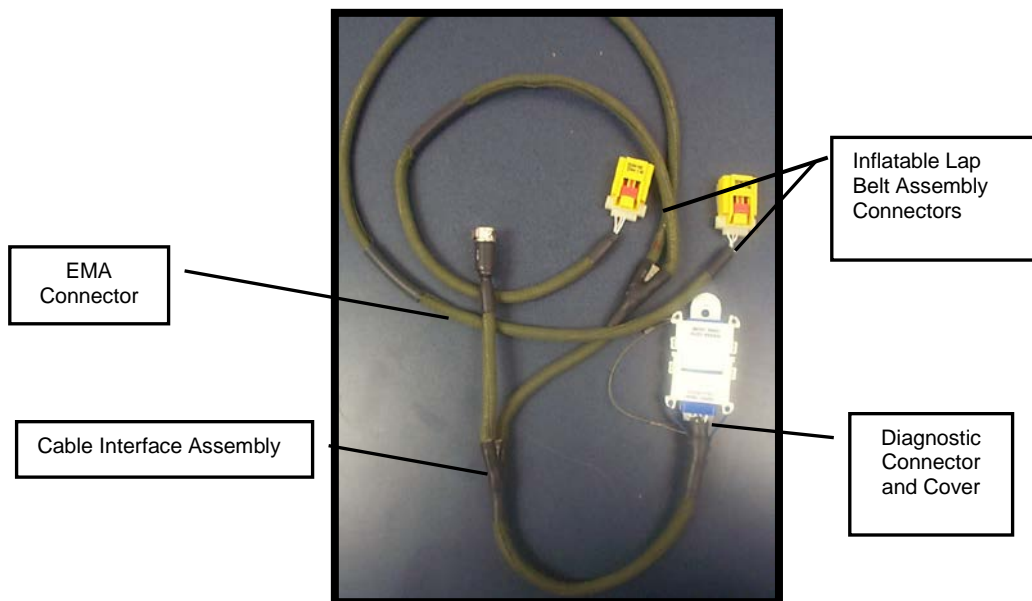
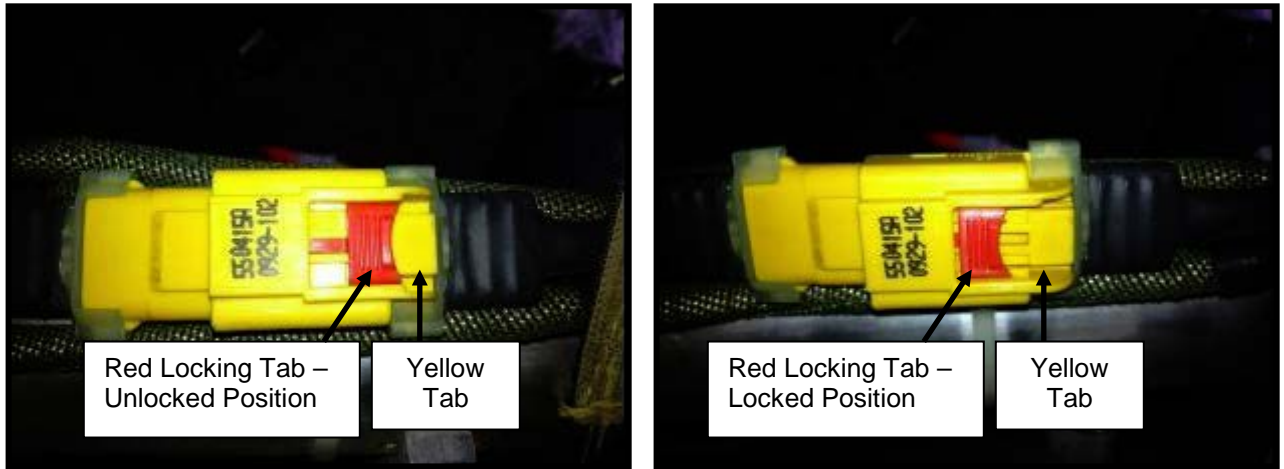

Figure 12: Cable Interface Assembly
Figure 13: Inflatable Lap Belt Assembly Connector
- (1) Enabling Switch Systems: Access yellow connectors that connect the Inflatable Lap Belt Assembly or Buckle Assembly to Cable Interface Assembly connector(s) (Figure 12) and disconnect by sliding the red locking tab backwards (Figure 13) to the unlocked position. Depress the yellow tab and pull apart both connector halves.
- (2) Remove squib connector from the Inflator by squeezing both sides of the connector and gently pulling away from the Inflator (Figure 13).
- (5) Remove Airbag Belt and Buckle Belt from seat belt shackles.
- (6) Disconnect the Cable Interface Assembly from the EMA by depressing locking mechanism on the Cable Interface Assembly EMA connector (Figures 12) and releasing connector halves.
- (11) Install the Cable Interface Assembly per the seat OEM's installation drawing and instructions.
- (12) Secure Two-Point Airbag Belt(s) to seat shackle.
- (13) Connect Cable Interface Assembly connector(s) to Inflatable Lap Belt Assembly, Buckle Assembly or extension cable connector(s). Connect mated halves together in proper orientation and slide Red Locking Tab forward to locking position (Figure 13).
- (14) Connect the Buckle Belt to seat shackle.
- (15) If installed, remove Safety Cable Tie from airbag buckle tongue before performing functional testing.
- (16) Perform functional test on system. Refer to Section 1000 – Testing and Fault Isolation for testing procedures.